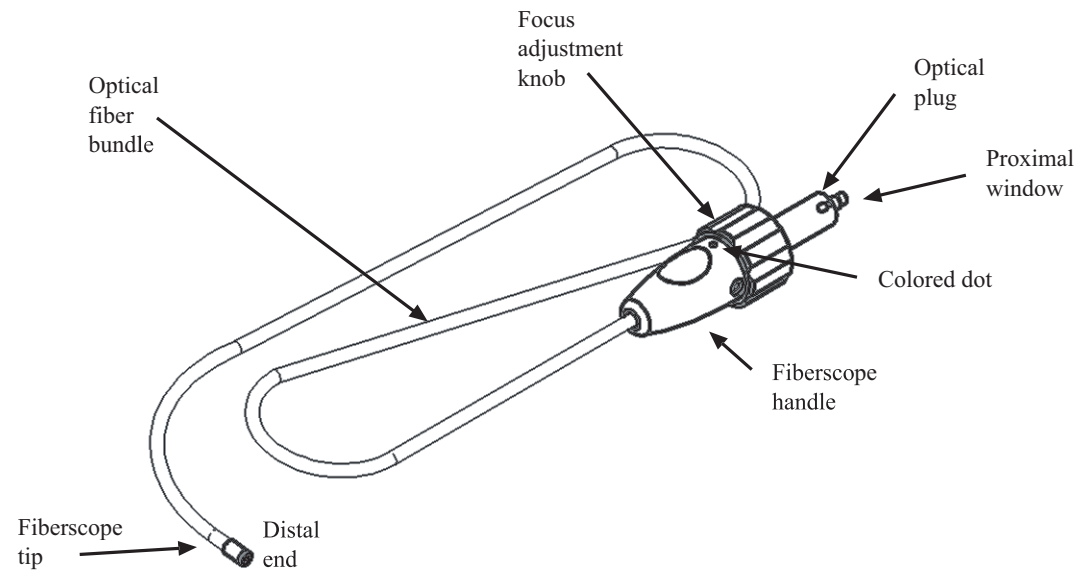

Figure 3. TrachView™ fiberscope.
- b. Clean the distal end of the Fiberscope (Fig. 3) with isopropyl alcohol and a cotton swab.
- c. Clean the proximal window of the optical plug (Fig. 3) with isopropyl alcohol and a cotton swab.